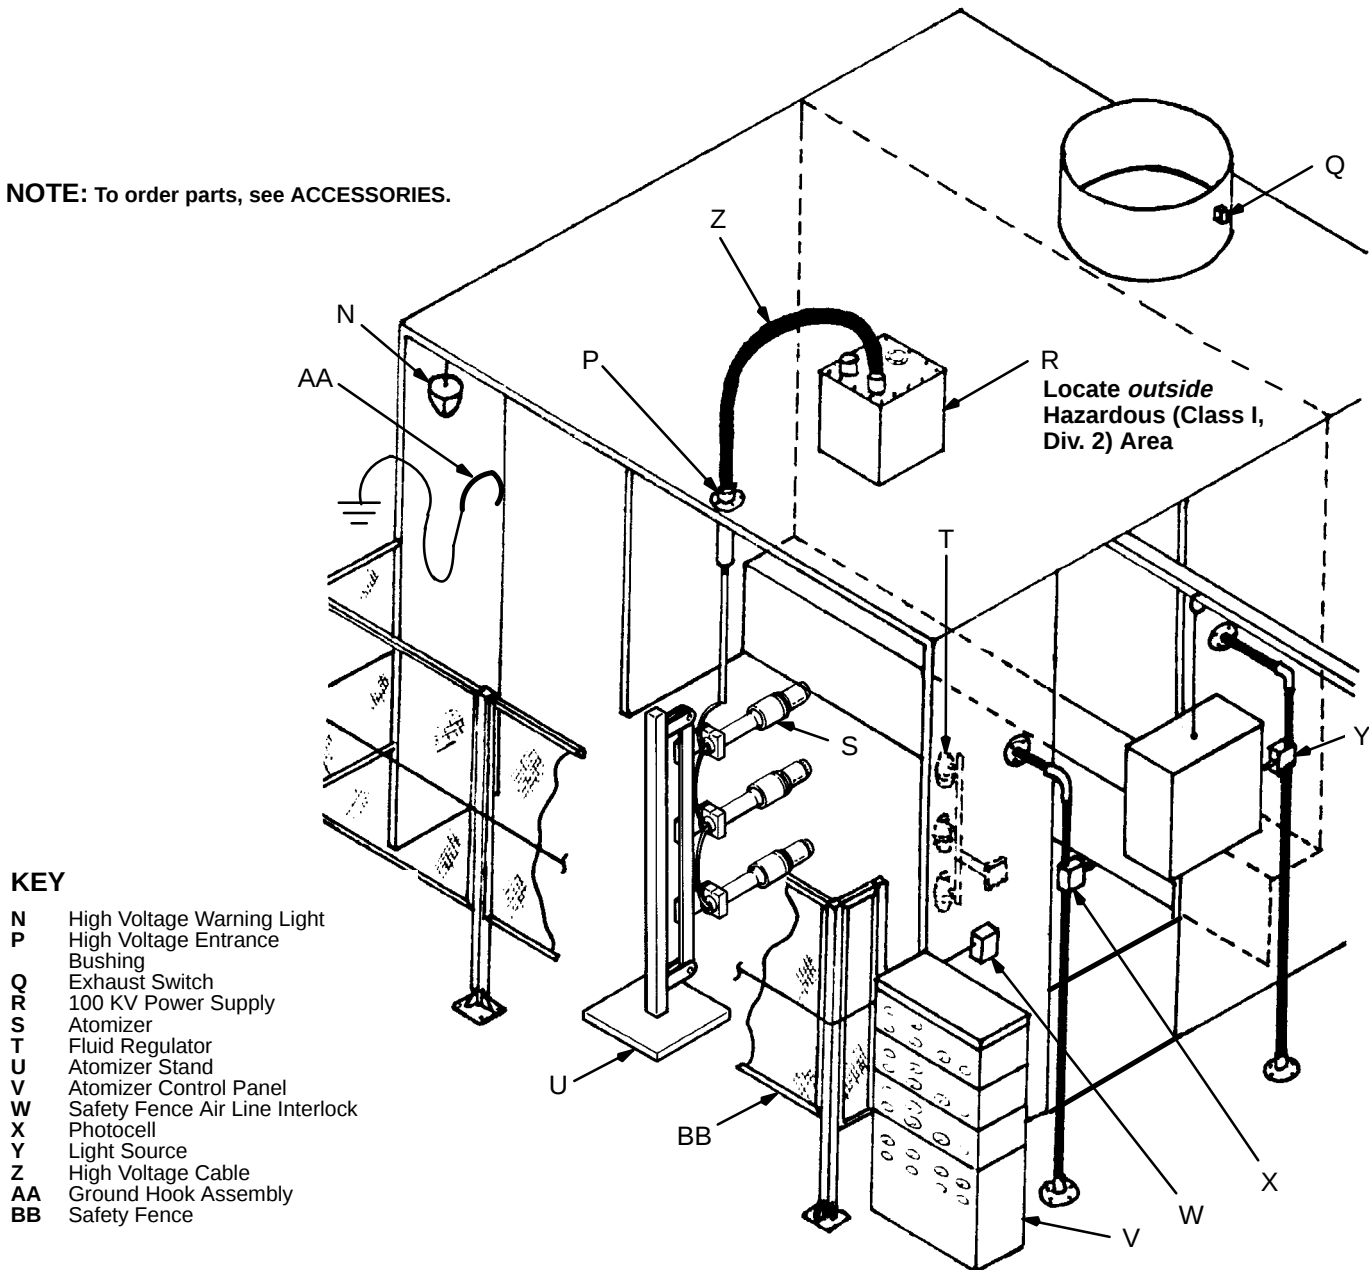

Fig 4 .
Be sure the high voltage power supply is OFF. Route the high voltage cable (Z) from the atomizer (S) to the power supply (R). Refer to Fig 4 and Form No. 681-904, 681-908, 681-911, 681-917, and 681-953.